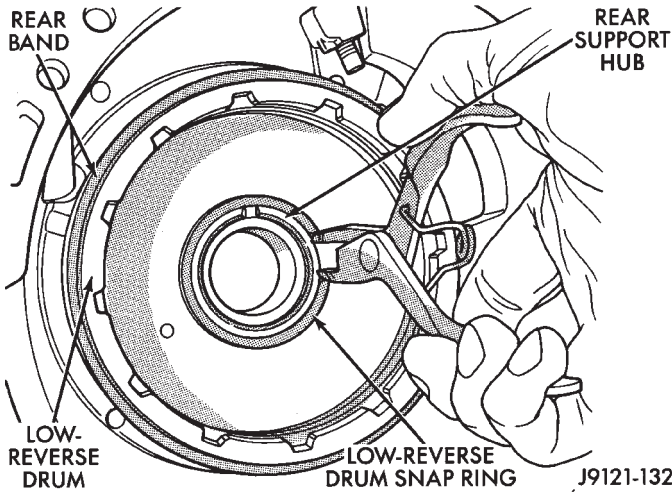

Fig. 85 Low-Reverse Drum Snap Ring
(27) Remove snap ring that secures low-reverse drum to rear support hub, however do not remove drum (Fig. 85).